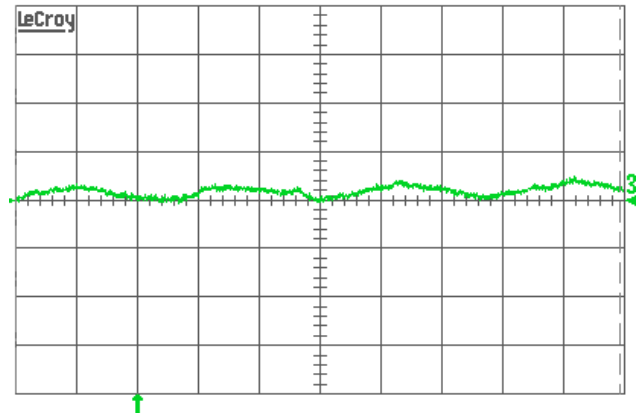

**Fig. 12:** Test setup for measuring input reflected ripple currents,  $i_c$  and  $i_s$ .
Fig. 11 shows the output voltage ripple waveform, measured at full rated load current with a 10  $\mu$ F tantalum and 1  $\mu$ F ceramic capacitor across the output. Note that all output voltage waveforms are measured across a 1  $\mu$ F ceramic capacitor. The input reflected ripple current waveforms are obtained using the test setup shown in Fig 12. The corresponding waveforms are shown in Figs. 13-14.
**Fig. 13:** Input reflected ripple current,  $i_c$  (200 mA/div.), measured at input terminals at full rated load current and  $V_{in} = 48$  V. Refer to Fig. 12 for test setup. Time scale: 1  $\mu$ s/div.
**Fig. 14:** Input reflected ripple current,  $i_s$  (10 mA/div.), measured through 10  $\mu$ H at the source at full rated load current and  $V_{in} = 48$  V. Refer to Fig. 12 for test setup. Time scale: 1  $\mu$ s/div.